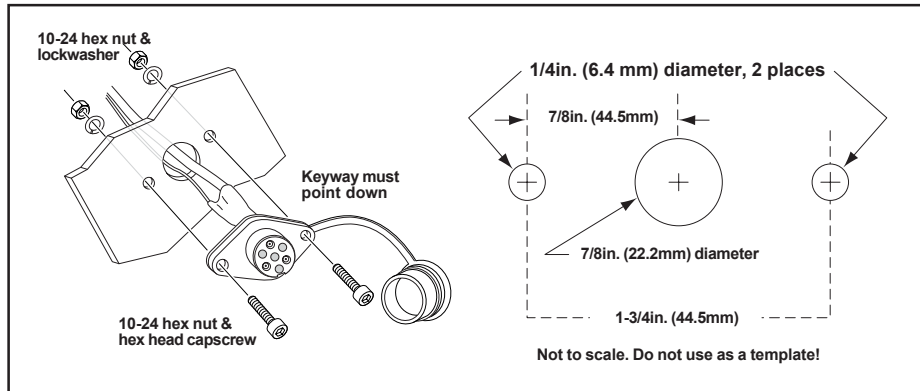

Figure 6. Remote socket installation.
- After determining the mounting location for the remote socket, drill three holes and install. (see figure 6)